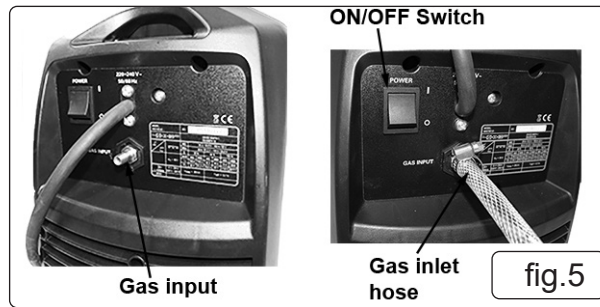

fig.5
5.4.2. Remove the end dust cap, then push the other end of the gas hose fully onto the gas inlet connection on the rear panel and secure with the worm drive clip (fig 5).
- 5.6.9. Check that the welding set is switched off at position '0' (fig.5) and that the earth clamp is isolated away from the torch tip.